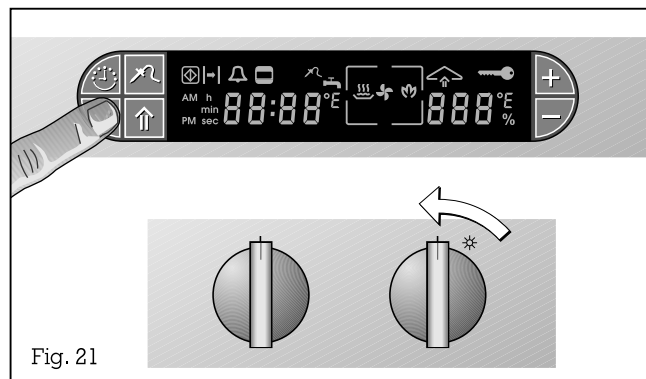

Fig. 21
- Turn the “Temperature” control knob to the 0 position (Fig. 21).